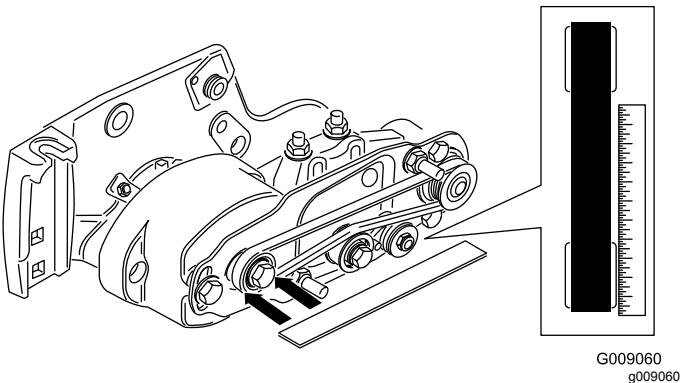

Figure 17
- Lay a straightedge along the outer face of the **drive** pulley (Figure 17). **Do not** lay the straightedge across both the drive and driven pulleys.